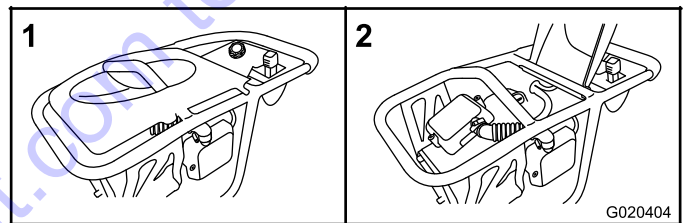

Figure 15
1. Open the cover of the machine (Figure 15).